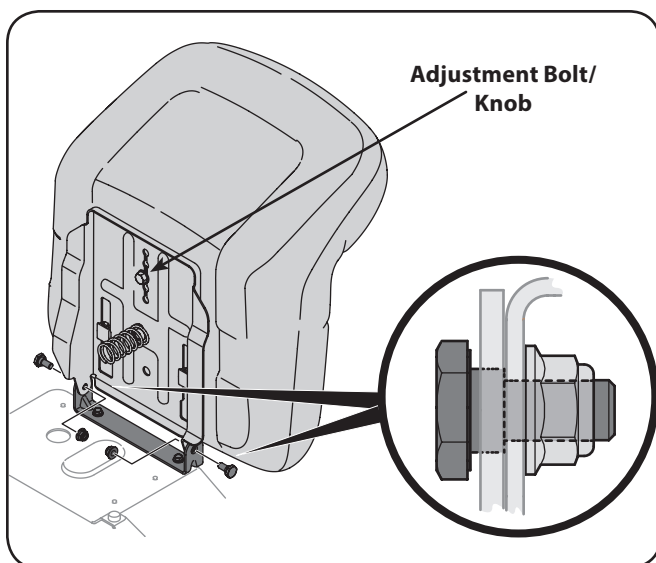

Figure 3-7
6. Install the two shoulder bolts and lock nuts removed from the seat mounting bracket in Step 1. See Figure 3-7.
7. To adjust the position of the seat, loosen the adjustment bolt/knob on the bottom of the seat. Slide the seat forward or backward as desired. Retighten the adjustment bolt/knob. Refer to Figure 3-7.